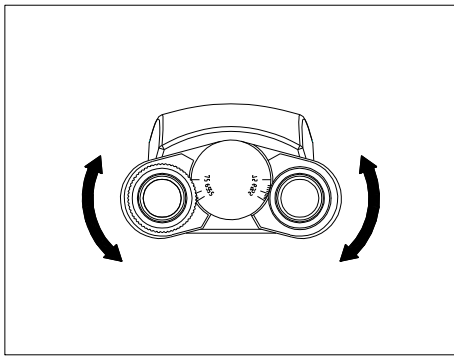

Fig.21
3.3.6 Adjusting the Interpupillary Distance (Fig.21)